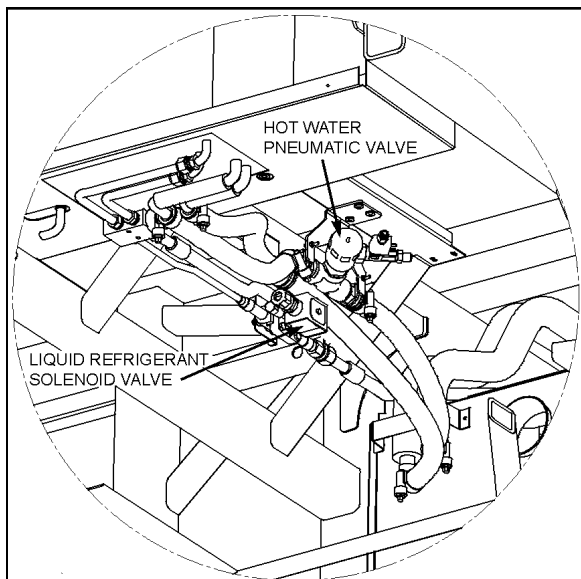

FIGURE 37: CEILING OF THE SPARE WHEEL COMPARTMENT
2. Locate the normally open water pneumatic valve on the ceiling of the spare wheel compartment (Fig. 37), move the pilot-solenoid valve red tab to close the valve.